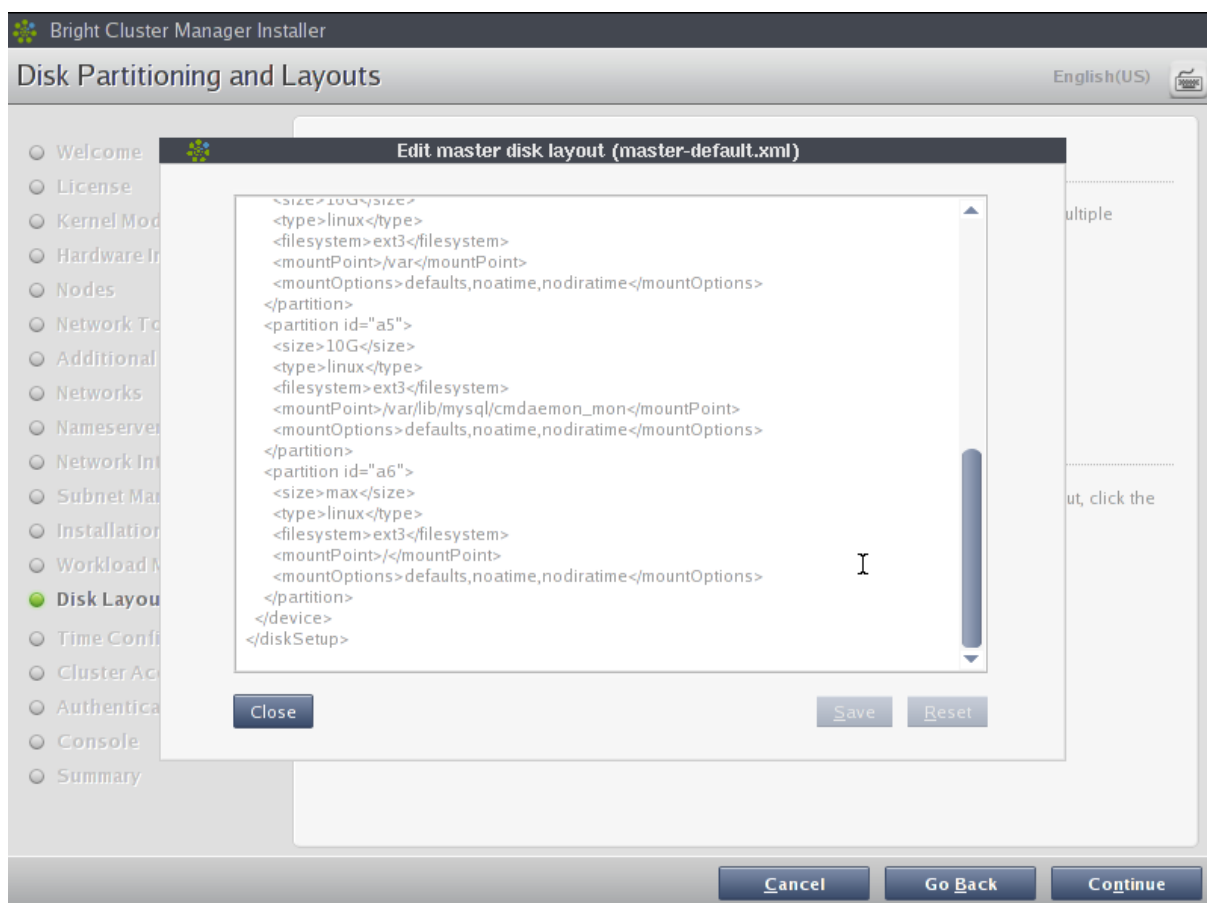

Figure 3.30: Edit Head Node Disk Partitioning
- A text editor pops up when the edit button of a partitioning layout is clicked (figure 3.30). This allows the administrator to view and change layout values within the layout’s configuration XML file using the schema in Appendix D.1 of the *Administrator Manual*.
1. for a large cluster or for a cluster that is generating a lot of monitoring or burn data, the default partition layout partition size for /var may fill up with log messages because log messages are usually stored under /var/log/. If /var is in a partition of its own, as in the default head node partitioning layout presented when the hard drive is about 500GB or more, then providing a larger size of partition than the default for /var allows more logging to take place before /var is full. Modifying the value found within the `<size></size>` tags associated with that partition in the XML file (figure 3.30) modifies the size of the partition that is to be installed.